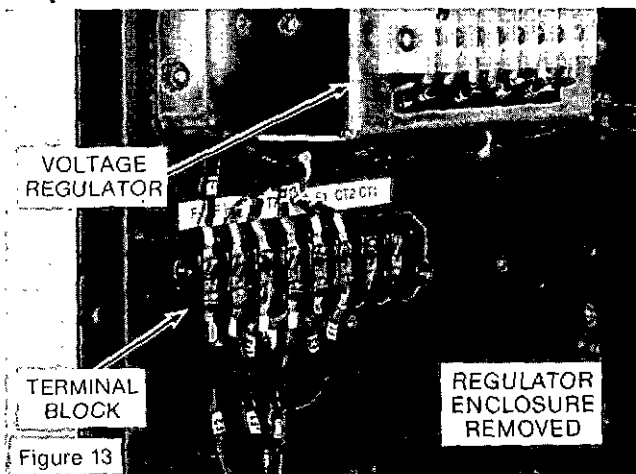

Figure 13
1. Disconnect the following leads from the corresponding points on the terminal strip on the regulator panel: (See Figure 13.)